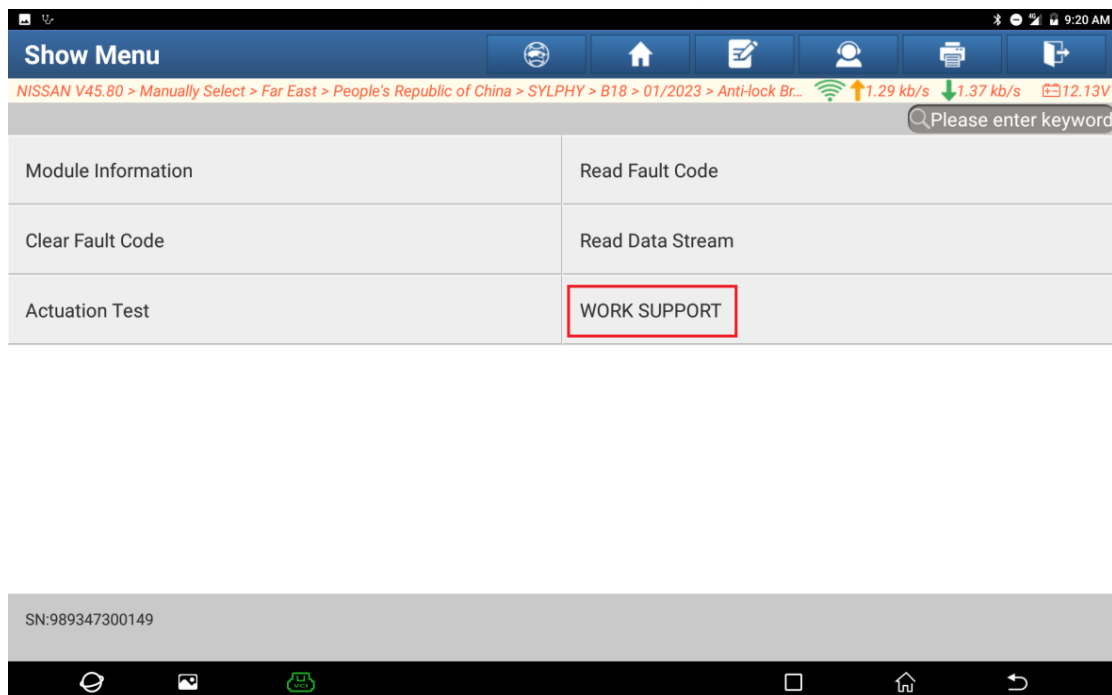

Figure 4
4. Choose [WORK SUPPORT] (as shown in Figure 4).